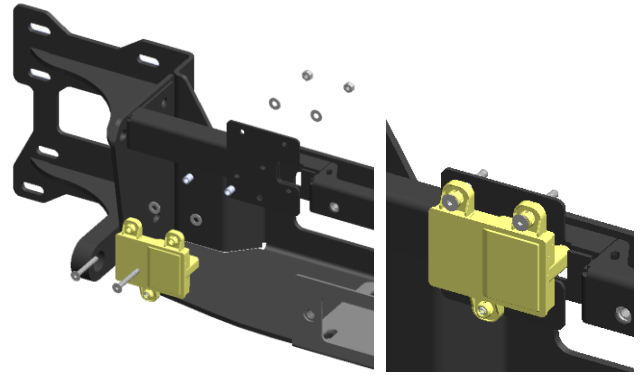

Figure 31: Front Radar Sensor Installation
- Install the sensor onto the mounting plate using the ¼"-20 x 2" flat head bolts, washers, nuts, and aluminum spacers (Figure 31).